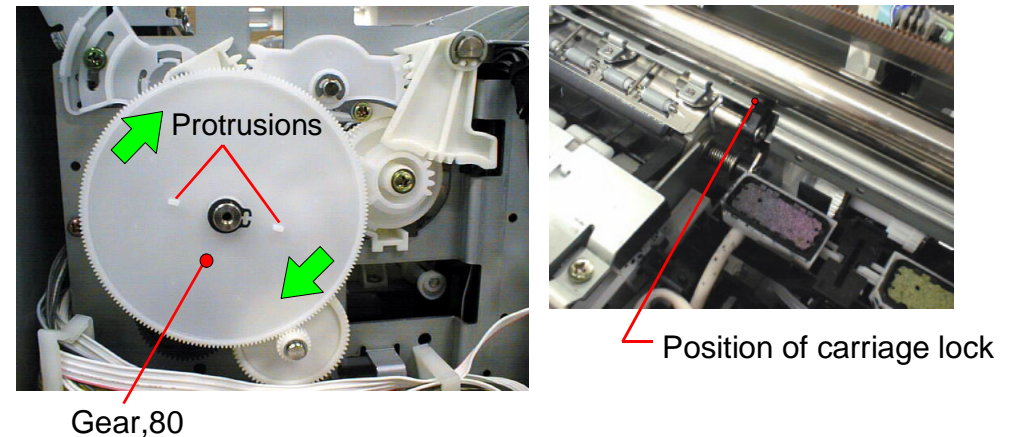

Figure 4-18. Releasing Carriage Lock
2. In case of replacing the head, if the carriage is fixed at the home position, that makes difficult to replace the head. Therefore, it is necessary to rotate the paper feed roller driven gear(Gear,80), holding 2 protrusions on the gear surface and release the carriage lock. (Refer to Figure4-18)